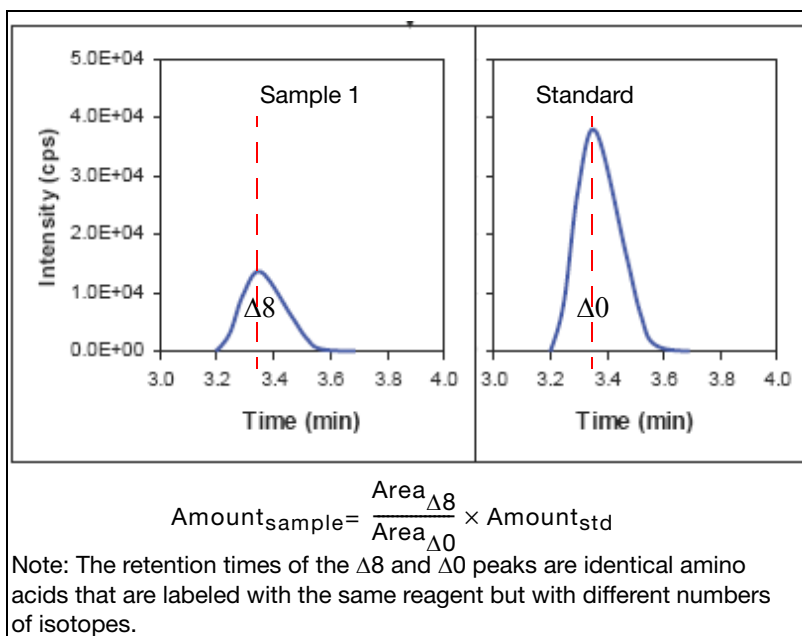

Figure 1 Representation of LC/MS/MS data showing peaks and the calculation for absolute quantitation
With Cliquid® Software for Routine Amino Acid Analysis, the AB SCIEX LC/MS/MS Systems allow users with minimal mass spectrometry (MS) experience to obtain data for relative and absolute quantitation of amino acids (Figure 1).